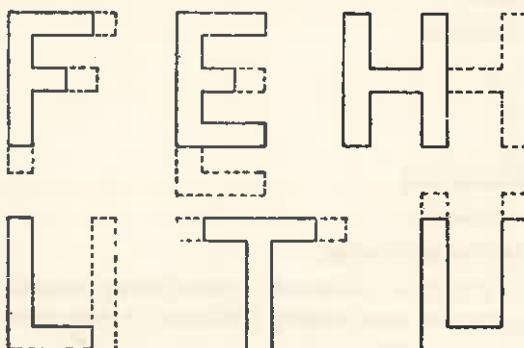

Fig. 4.19. Expansions to factory buildings.
- Where processes are housed in separate buildings, certain plan shapes have become popular due to their ease of extension (expansion) and they are in the form of the letters *F, E, H, L, U, T*, etc; (refer Fig. 4.19) original building is in full lines and extensions are shown dotted.